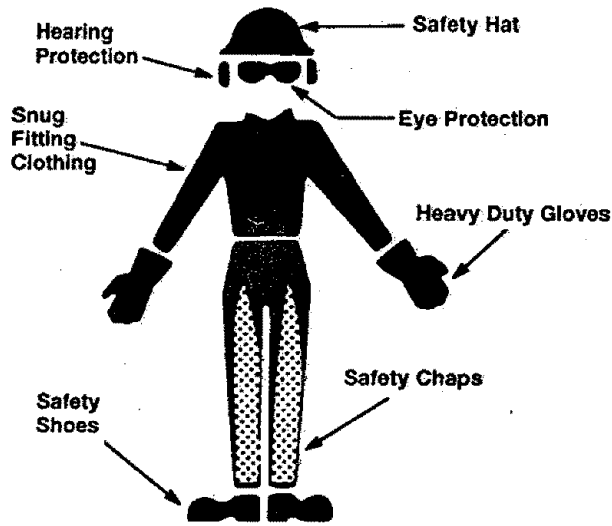

Figure 1
- Wear protective gear. Figure 1. Always use steel-toed safety footwear with non-slip soles; snug-fitting clothing; heavy-duty, non-slip gloves, eye protection such as non-fogging, vented goggles or face screen; an approved safety hard hat; and sound barriers – ear plugs or mufflers to protect your hearing. Regular users should have hearing checked regularly as chain saw noise can damage hearing.